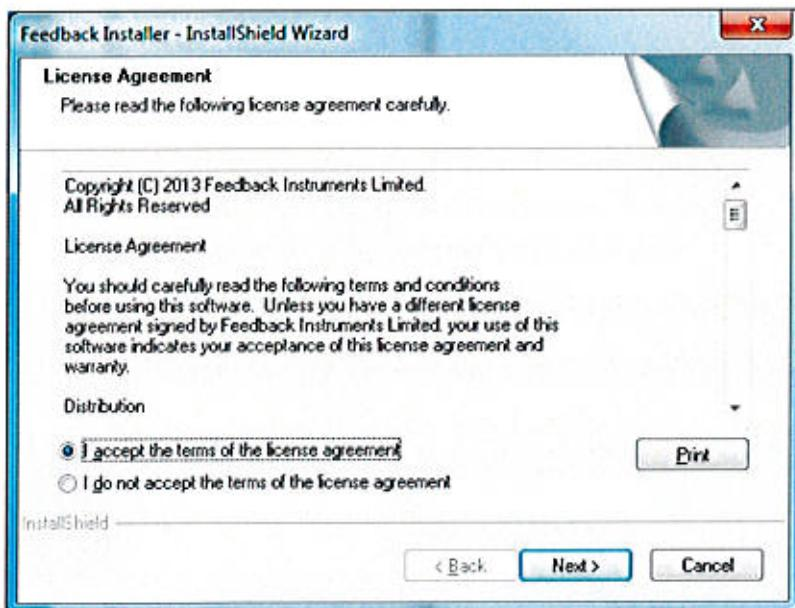

Figure 18 Installation window
1. Close Matlab. Run the fbsetup programme from the CD. The following window will open (Figure 18).